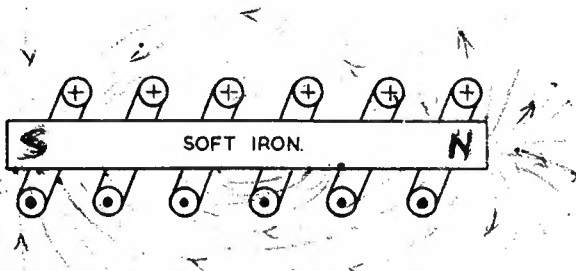

FIG. 2.
- STEP 2. Using iron filings, plot the field of the solenoid. Note the field pattern and direction on Fig. 2.